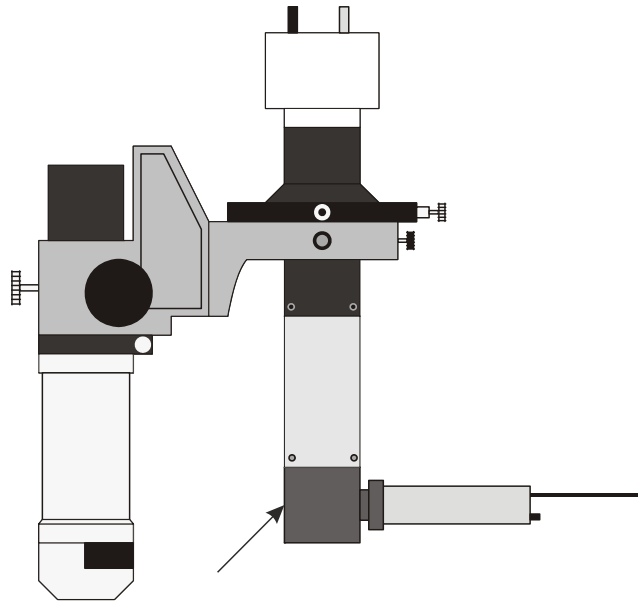

Fig. 1-8. Mounting the beam splitter.
2. Insert the beam splitter with the illuminator into the lower end of the telescope and secure it with three screws (Fig. 1-8).